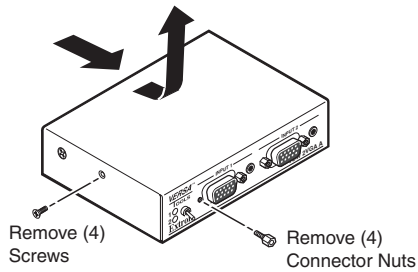

Figure 2-9 — Removing the cover
- Remove the two screws on each side of the switcher (figure 2-9). Remove the four connector nuts on the front panel of the switcher. Lift the top cover off of the switcher.